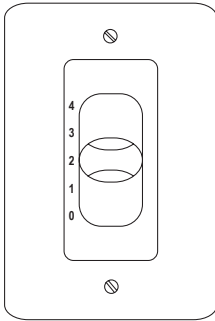

Figure 19
2. Check the operation of the fan by sliding the bar of the control through the four positions marked 1-4 ("0" position is OFF) (Figure 19).